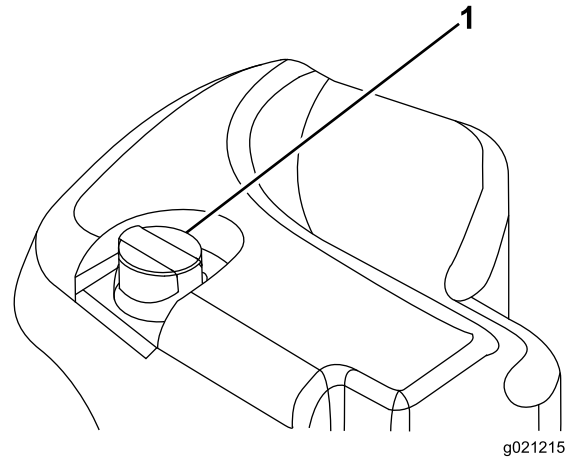

Figure 32
2. Clean the area around the filler neck and the cap of the hydraulic tank (Figure 32).